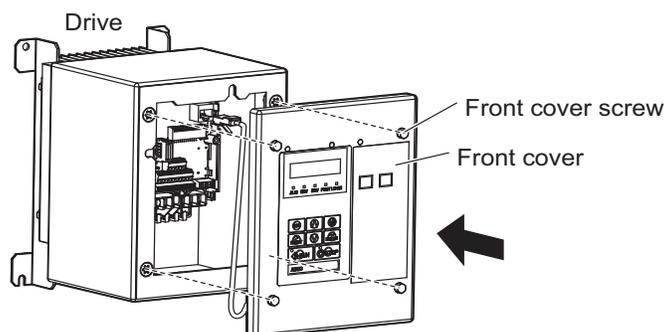

Figure 38 Attach Cover to Drive
14. Reattach the front cover of the drive using four bolts, **Figure 38**. Refer to **Table 9** on page 31 for tightening torque specifications.